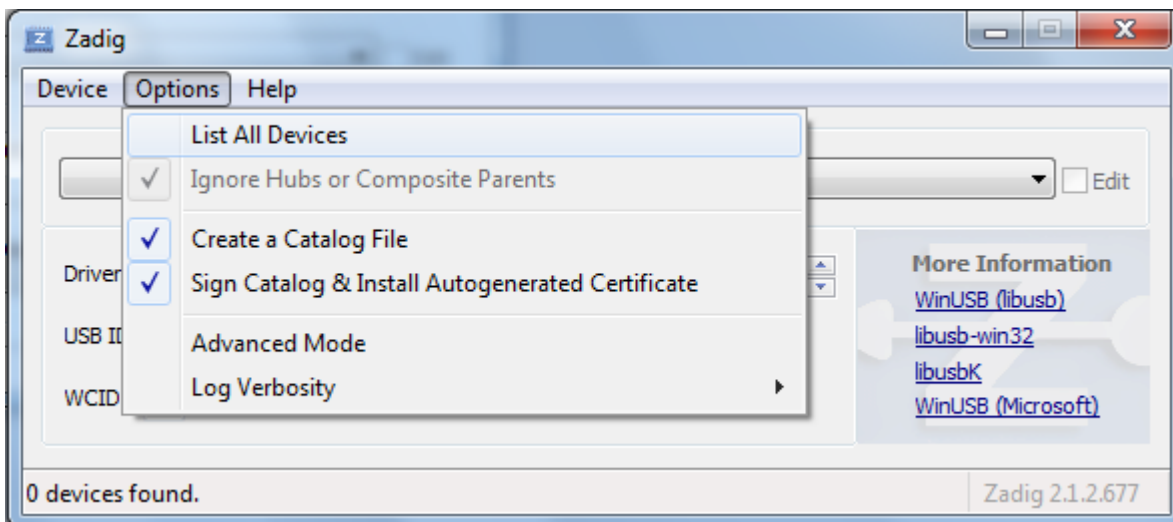

Figure 27. Zadig Options
4. Run the `zadig_<version>.exe` and install the WinUSB driver for USB<->JTAG/SWD (Interface 0) debuggers (refer to Figure 27 and Figure 28). The IAR and CCS debugger do not work after this: the drivers must be reconfigured to work with these (refer to Section 3.3.6).